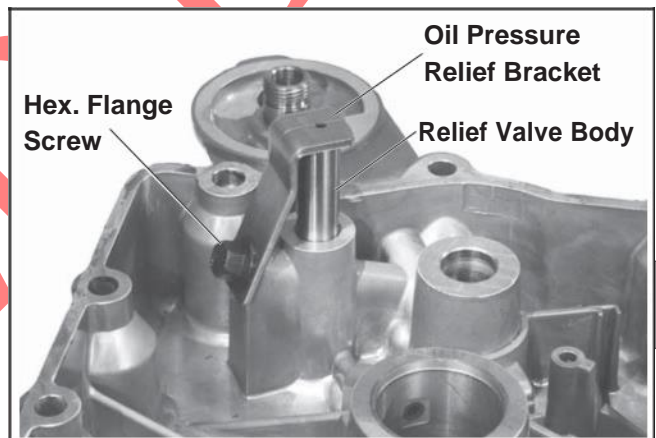

Figure 9-39. Removing Oil Pressure Relief Valve Bracket (Early Style).
3. Identify the type of oil pressure relief valve used. If the relief valve assembly is like that shown in Figures 9-39 and 9-40, remove the hex. flange screw, retaining bracket, relief valve body, piston, and spring. If the relief valve is like that shown in Figure 9-41 removal is not necessary.